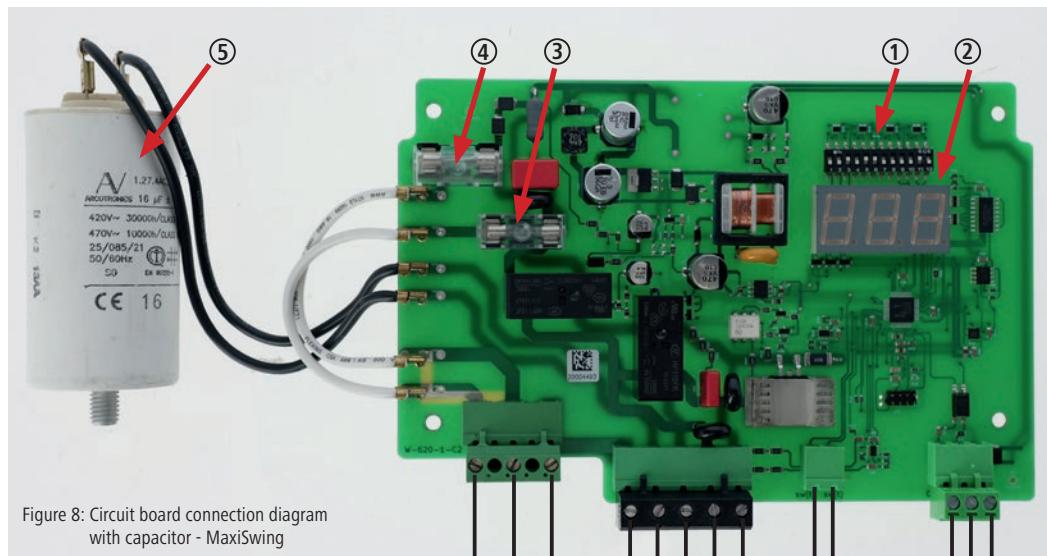

Figure 8: Circuit board connection diagram
The cycle time is set at the factory to 60 seconds. If necessary, this can be adjusted using the dip switch element on the circuit board (Fig. 8 - item 1) to a value between 7.5 and 300 seconds. The cycle time may only be readjusted after consultation with Kerbl Service.
Fuse 6, 3 A (Fig. 8; item 3+4) on the circuit board has burned through or has come loose.	<ul style="list-style-type: none"> • Disconnect the control unit from the mains and secure it against being switched on again. • Check the secure position of the fuses. Replace defective fuses. (Fig. 8 – item 3+4) • If there is no indication on the display when restarting with replaced fuses, then the main board is defective.